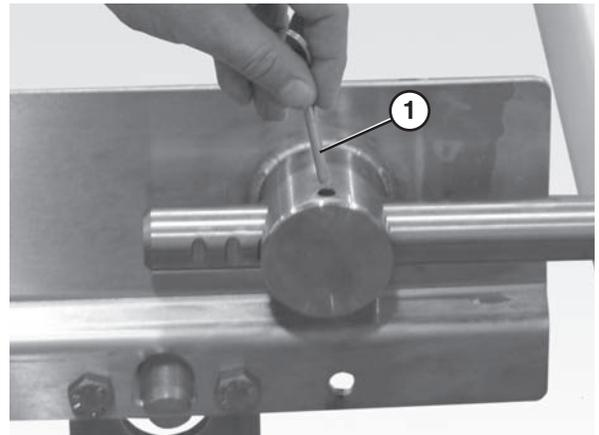

Figure 47
2. Remove the pull pin (**Figure 47, item 1**) on the tension end of the conveyor to release belt tension.